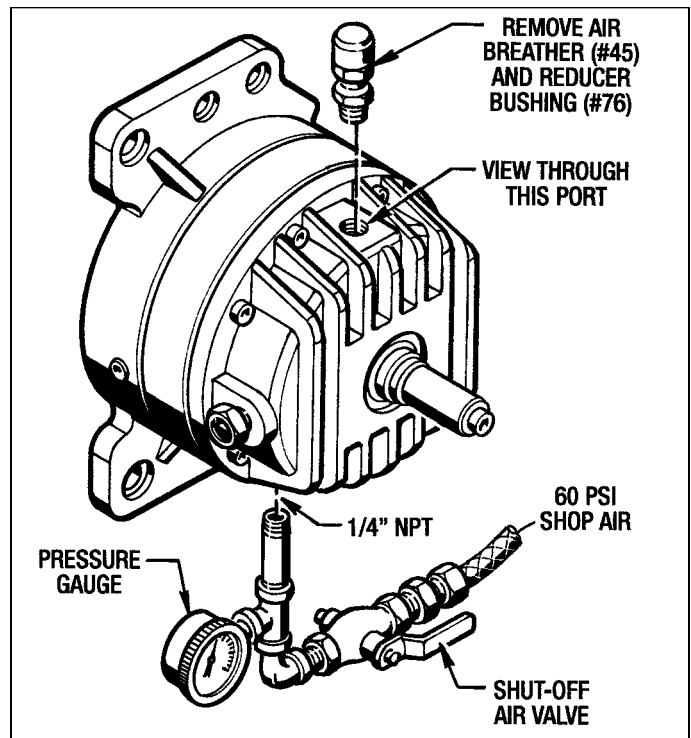

Figure 5.1 - Set-Up for Operational Checks
1. Make provisions for manual operation, if automatic controls are used. (See Figure 5.1)